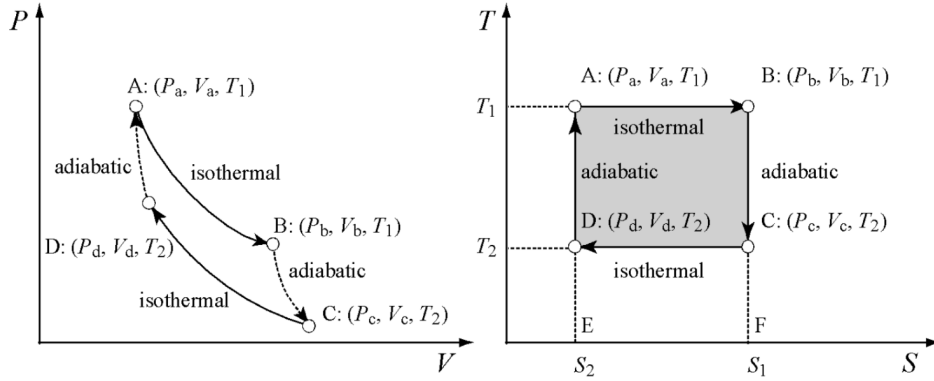

Figure 3: Carnot cycle in the PV and TS diagrams.
In the previous section, the Carnot cycle was drawn on the pressure (P) versus volume (V) plane. From the relation,  $\delta W = PdV$ , valid for a reversible process, the area surrounded by the Carnot cycle,  $A \rightarrow B \rightarrow C \rightarrow D$ , on the P-V plane gives the total work of the Carnot engine. By recalling the expression,  $\delta Q = TdS$ , for a reversible process, let us draw the Carnot cycle on the temperature (T) versus entropy (S) plane. On this plane, an isothermal process, T constant, is a horizontal line and an adiabatic process,  $Q = 0$ , thus S constant, is a vertical line. Therefore, a Carnot cycle is a rectangular box on the T-S plane as shown in Fig. 3. Similar for the work, the area surrounded by  $A \rightarrow B \rightarrow C \rightarrow D$  on the T-S plane give the total heat of the Carnot engine.